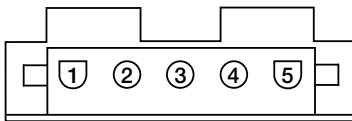

Figure 1: Connector on Motor
6. Check to see if motor has proper line voltage between pins 4 and 5. (see Figure 1)